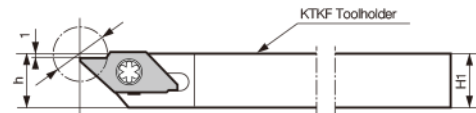

Fig.2 When TKF-AS/-ASR installed (the edge position: 1.0mm below the center)
**Note 1)** When using TKF-AS/-ASR insert with KTKF toolholder, the edge position is 1.0mm below the center. (See Fig.2) Please adjust the edge height at the parameter of the NC lathe or using soleplates.